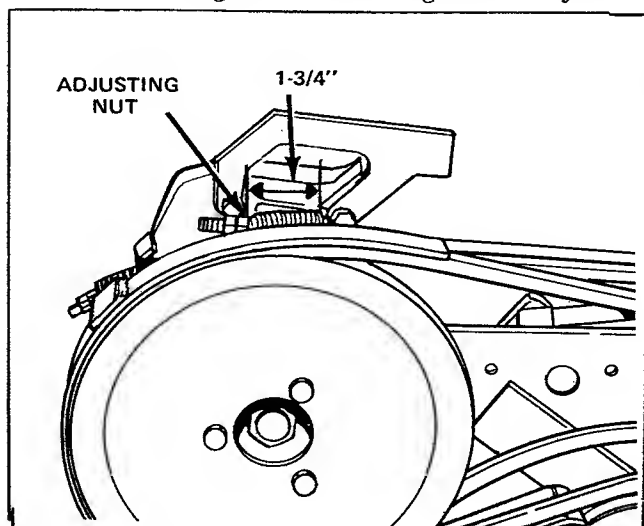

Figure 27. Pulley Brake Rod Adjustment
3. While holding the clutch-brake pedal down fully, measure the length of the large spring on the pulley brake rod (figure 27). It should be compressed to 1 3/4 inches. If it is not 1 3/4 inches, loosen the adjusting nut and move it forward or back until the proper measurement is reached. Then hold adjusting nut and tighten the locking nut firmly to it.